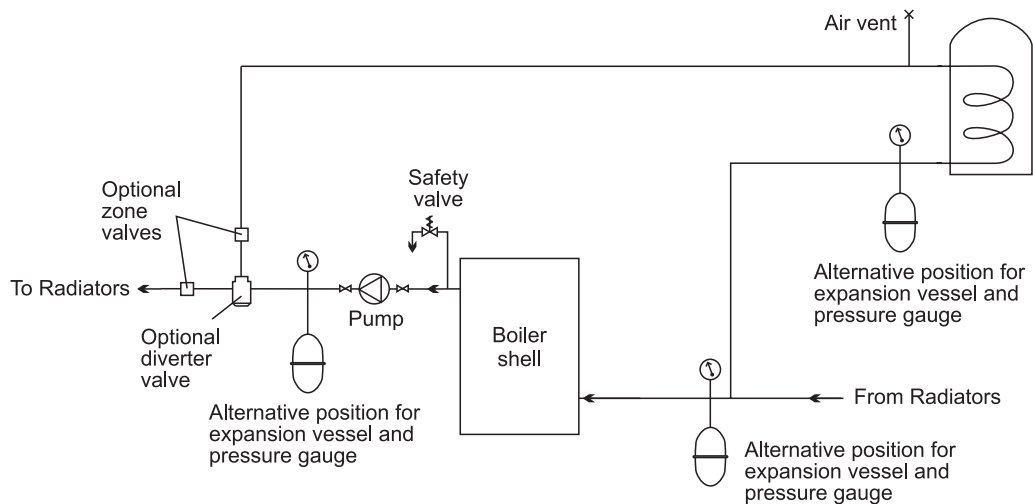

Fig. 11 Sealed system
See Fig. 11
- 3 The expansion vessel can be fitted in either the return or flow pipework in any of the recommended positions as shown in Fig. 11. To reduce the operating temperature of the expansion vessel diaphragm, position it below the pipe to which it is connected. The expansion vessel may be positioned away from the system, providing the connecting pipe is not less than 13 mm diameter.